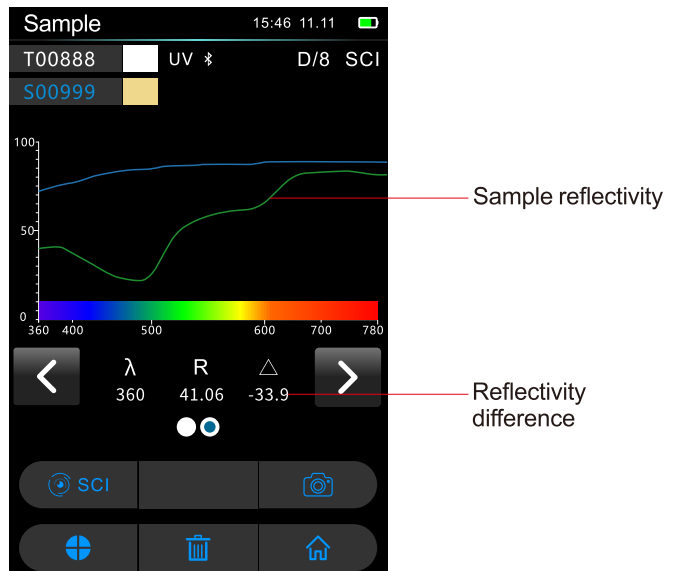

Figure.12 Sample reflectivity
7) **Sample reflectivity:** display both standard and sample reflectivity curve at the same time. Blue represents standard, and green represents sample, as shown in Figure 12.
As shown in figure 12,click .The wavelengthreflectivity,and reflectivity difference of the sample and standard are switched at an interval of 10nm.